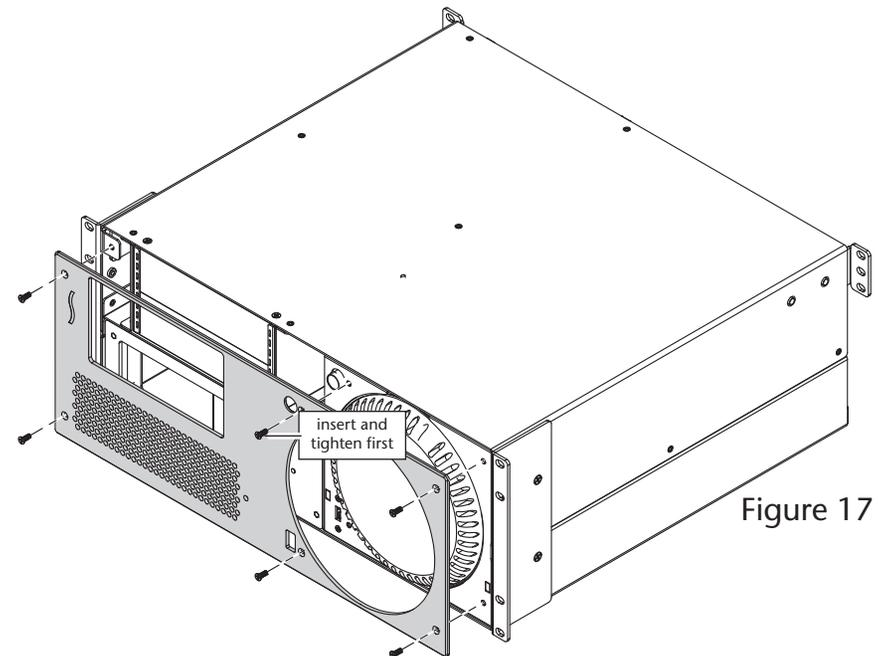

Figure 17
17. Using the remaining screws, secure the faceplate to the rackmount enclosure; **do not overtighten the screws** (Figure 17).